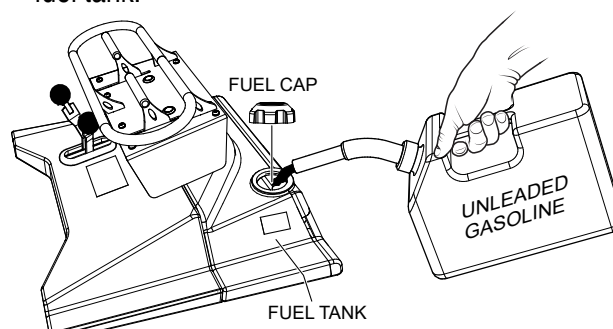

Figure 8. Fuel Tank
1. Remove the fuel cap (Figure 8) located on top of the fuel tank.